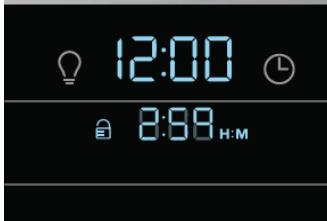

Figure 35: Clean cycle in progress
- During the clean cycle the time of day remains in the display and the time remaining in the clean cycle will also be active. (Figure 35)